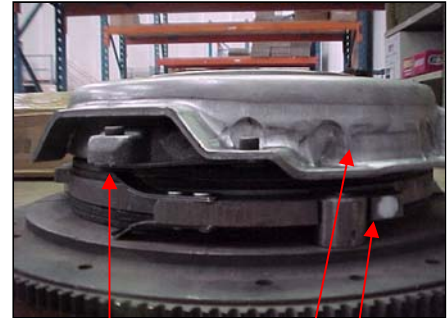

Fig. 5
5. Line up the Balance Mark and position the Pressure Plates and Cover Assembly over the Adaptors (fig 5).